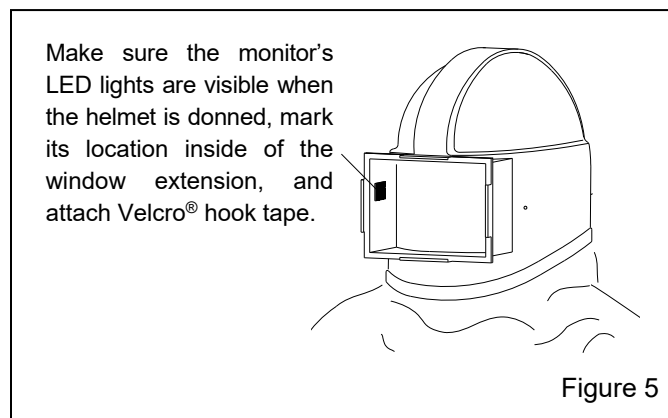

Figure 5
**2.1.2.3** Don (put on) the helmet and temporarily place the monitor on one of the side walls of the window extension, as shown in Figure 5. Make sure the monitor's LED lights are visible.